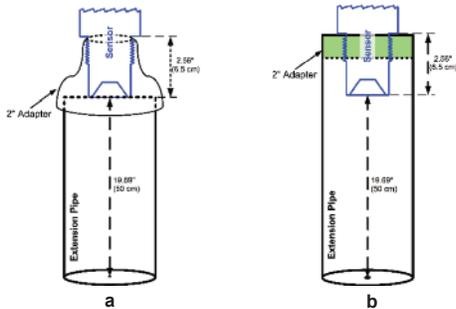

Figure 3: Extension Pipe Recommendation
- b) protrude it by up to 2.56" (6.5 cm). See Figure 3 below: